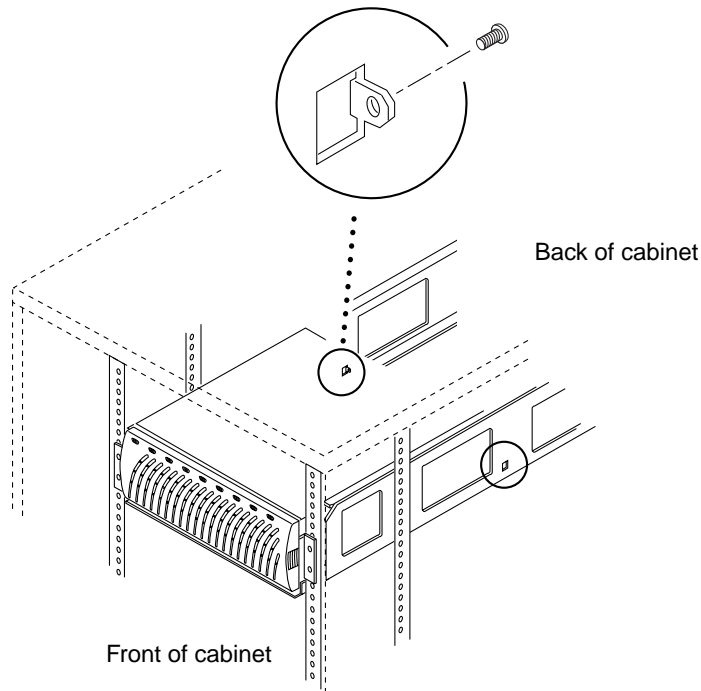

FIGURE 2-4 Securing the Disk Tray Chassis
3. Secure the disk tray to the side rails by threading two screws (part number 240-1953-01) into the support plate at the back of the disk tray chassis (FIGURE 2-4).